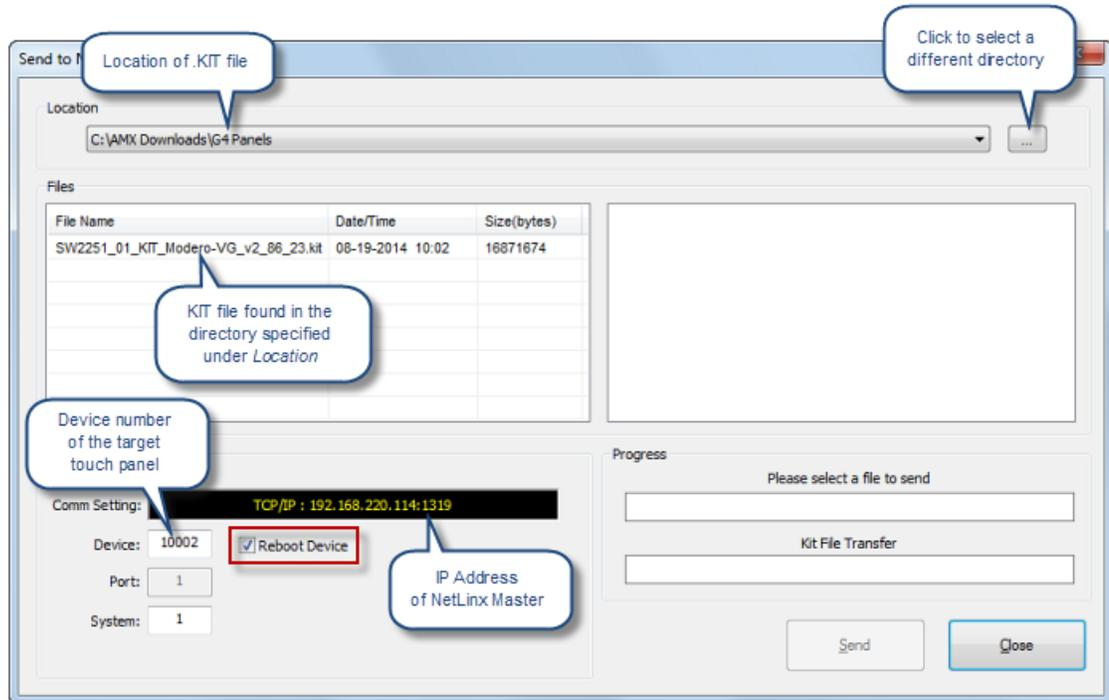

FIG. 54 NetLinX Studio - Send to NetLinX Device dialog
2. Right-click on the target panel and select **Firmware Transfer** to open the *Send to NetLinX Device* dialog. Alternatively, select **Tools > Firmware Transfers > Send To NetLinX Device** to open this dialog (FIG. 54):